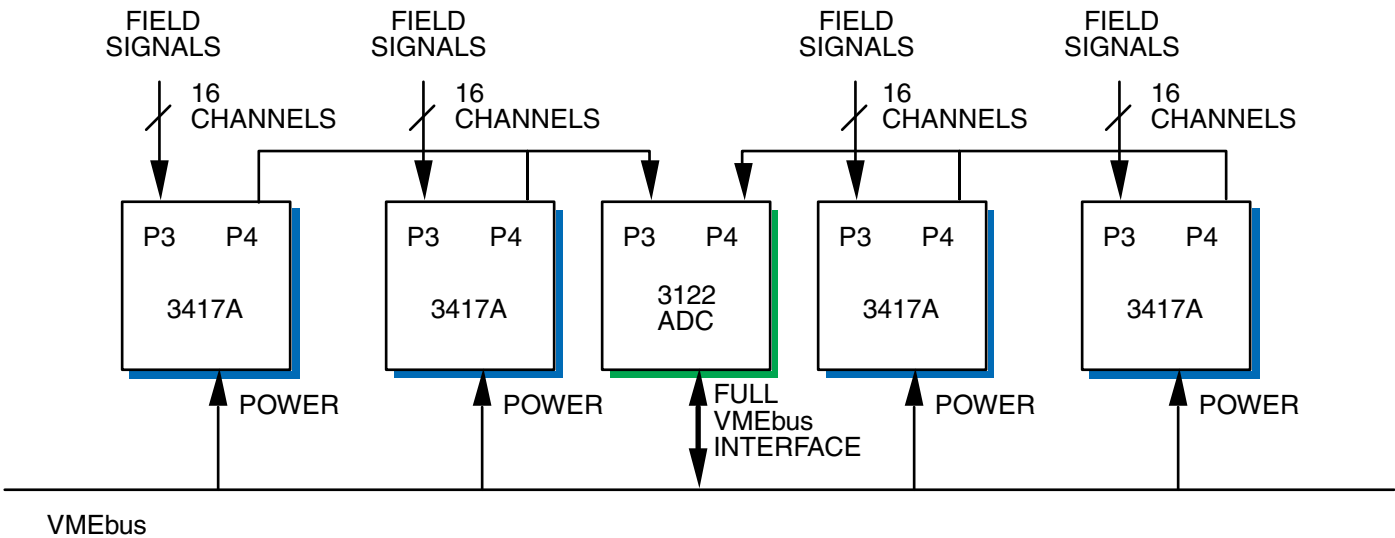

Figure 2. Typical System Implementation Using VMIVME-3122 with VMIVME-3417A
**VMIVME-3417A:** 16-Channel Isolated Signal Conditioning Board with Optional Current Loop Termination. The VMIVME-3417A provides full-scale input ranges from  $\pm 5$  mV to  $\pm 10$  V. Two-pole low pass input filters are available with cutoff frequencies of 4, 40, or 400 Hz. Optional current loop termination input resistors are available, and replace the input filter. See Figure 2 for a typical system implementation of the VMIVME-3417A.